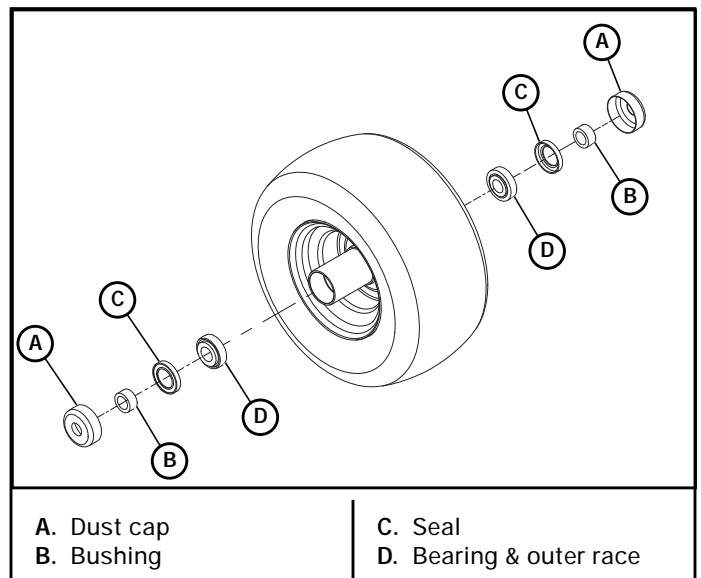

Figure 4-19
- Remove the dust caps and bushings from the wheel housing. Retain these parts. Figure 4-19
- Remove and discard the seals. Figure 4-19
- Remove and discard the tapered roller bearings and outer bearing races. Figure 4-19